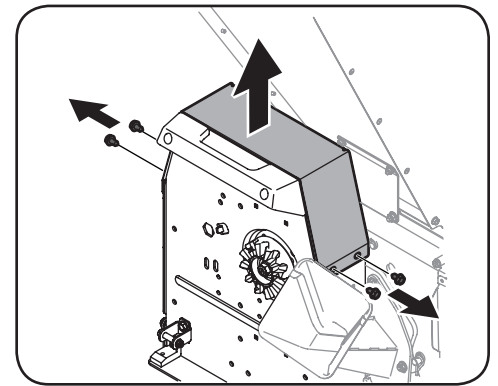

Figure 5-4
2. Remove the cover screws which secure the drive system cover. Retain hardware. See Figure 5-4.